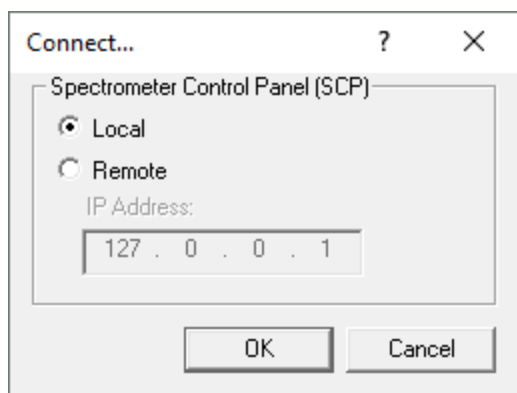

Figure 101: The Connect... dialog
- **Go On-line...** will display the **Connect...** dialog (Figure 101) on which you will be asked to supply the Chirascan **IP Address**. It is used when Chirascan Viewer has been started as a stand-alone program